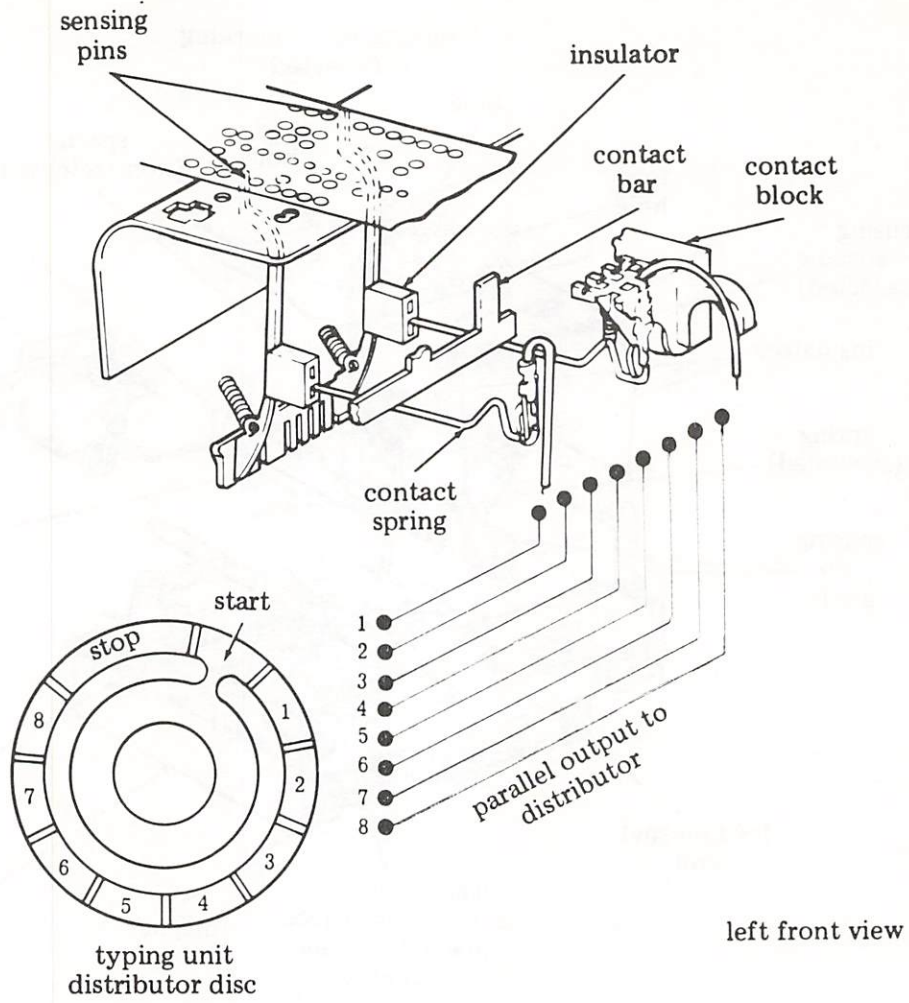

Figure 6 - Contact Block Mechanism
3.11 There are insulators attached to each of the eight sensing pins which are used to hold the contact springs down and away from the contact bar (Figure 6). These contact springs are connected in parallel to corresponding segments on the distributor disc in the typing unit. If a sensing pin finds a hole in the tape its upward movement will allow its contact spring to come into contact with the contact bar (marking). If